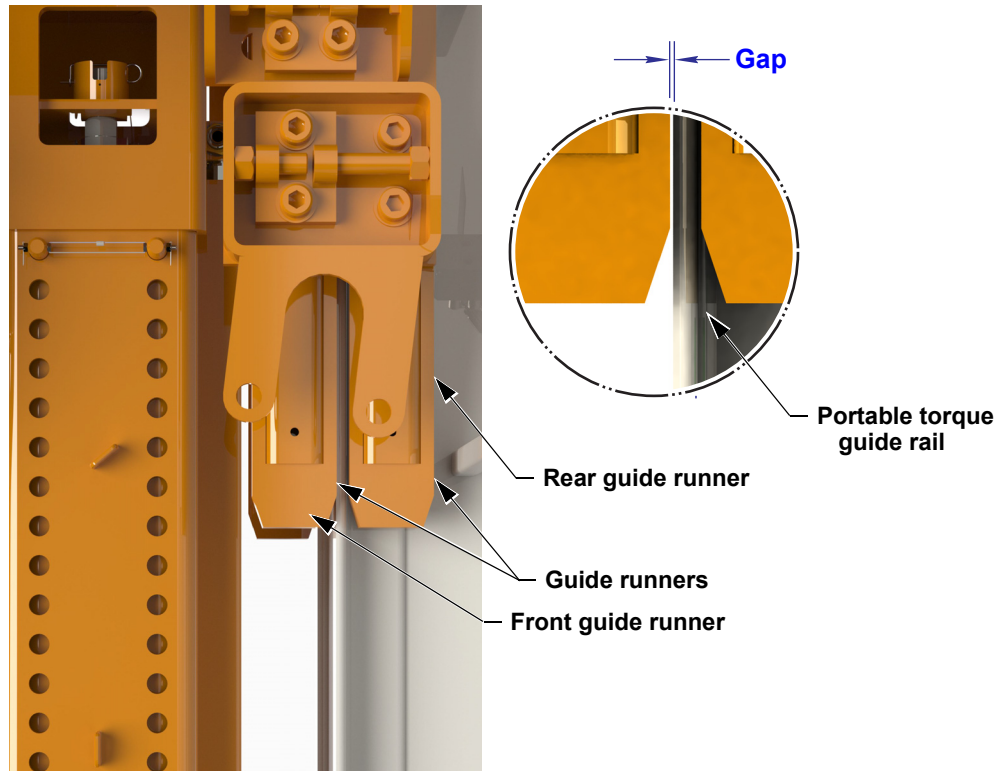

Figure 4: Guide runner wear inspection
- When the top drive is installed and laying flat, inspect to ensure the overall gap is an 1/8" to 3/16" (3.2 mm to 4.8 mm) between the front or rear guide runners and the portable torque guide rails, (see Figure 4).